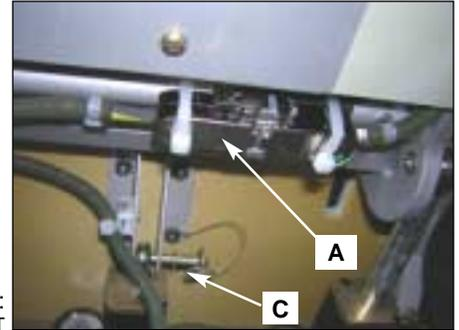
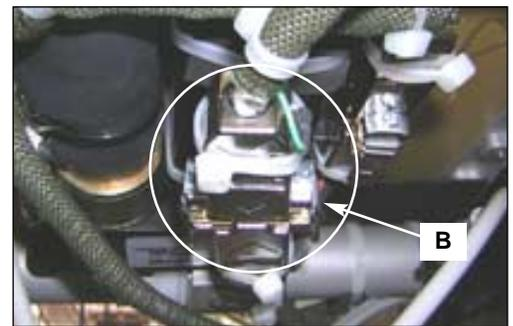

FIG. 303:
FIG. 303A:
- (3) Raise legrest. Disconnect footrest actuator cable (A) (see fig. 303); disconnect legrest actuator cable (B) (see fig. 303A).
- (4) Remove two lateral pins (70) (see IPL Fig. 9); remove also legrest actuator pin (C) (see fig. 303).